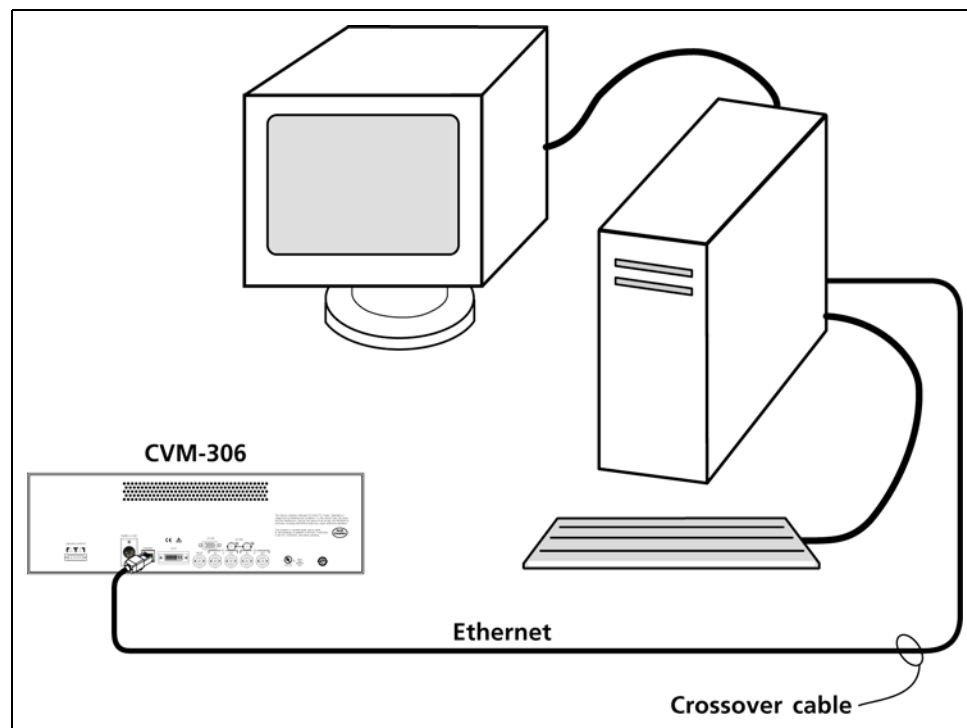

Figure 2-2 CVM-306 Dedicated PC Connection
- For a dedicated PC connection, connect the host PC with a network card to the "ENET" connector on the back panel of the CVM-306, using a CAT5 crossover cable (not included). See Figure 2-2.